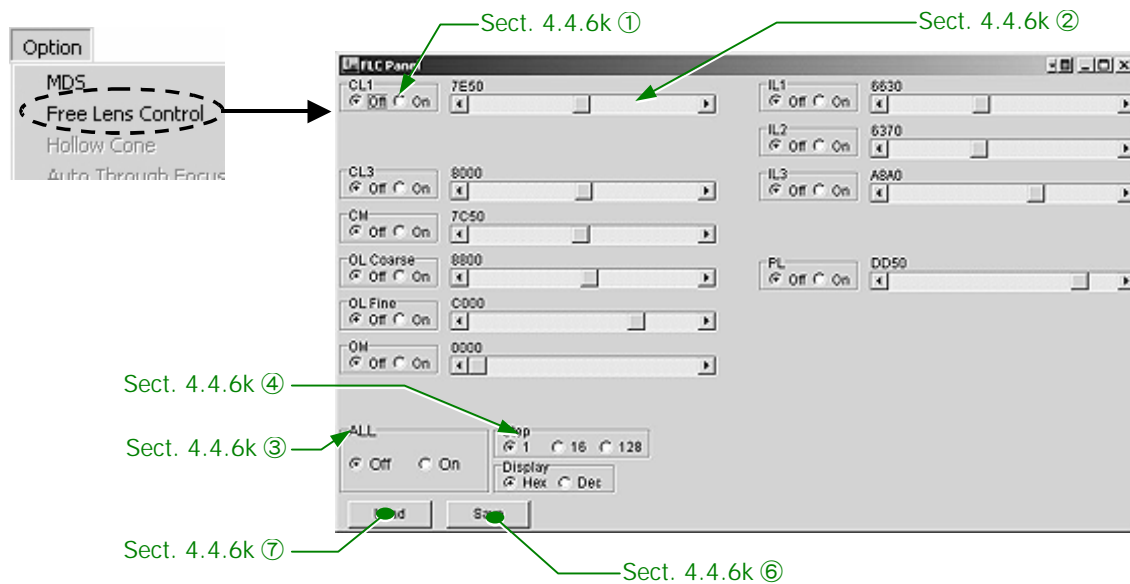

Fig. 5.47 FLC Panel screen
1. Select "Option" on the main menu on the "TEM Controller" screen to open the "FLC Panel" screen (☞ Fig. 5.47).